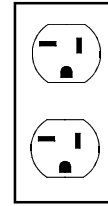

FIG. 7
**115 Volt Model Only.** Plug the power cord into a standard 115V AC 20-amp grounded receptacle. See FIG. 7.